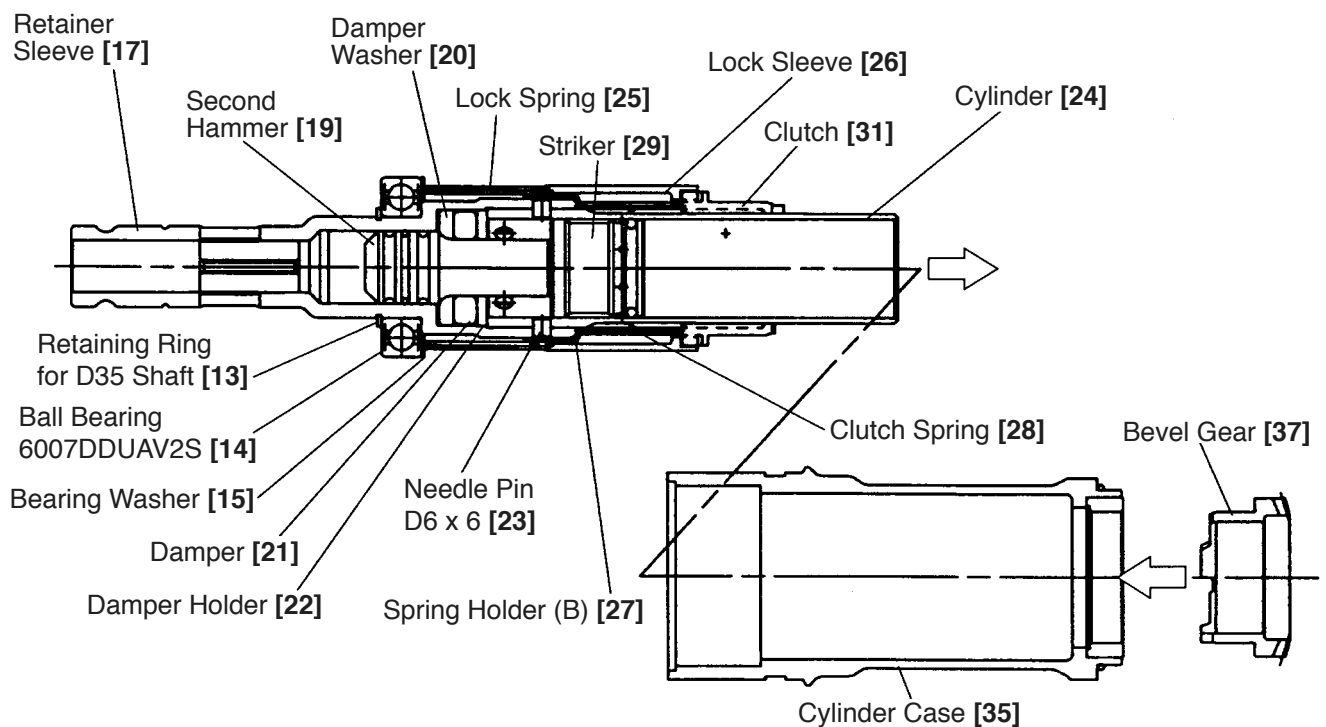

Fig. 21
(3) Reassembly of the cylinder and the retainer sleeve
Press-fit the Retainer Sleeve [17] into the Ball Bearing 6007DDUAV2S [14]. Secure it with the Retaining Ring for D35 Shaft [13]. Mount the Second Hammer [19], Damper Washer [20], Damper [21] and Damper Holder [22] to the Retainer Sleeve [17]. Mount the Damper Washer [20] aligning the rounded surface of the inside diameter with the rounded surface of the Second Hammer [19]. Insert the Striker [29] into the Cylinder [24] then insert the Cylinder [24] into the Retainer Sleeve [17]. Secure the Cylinder [24] and the Retainer Sleeve [17] with the four Needle Pins D6 x 6 [23] and cover it with Spring Holder (B) [27]. Mount the Bearing Washer [15], Lock Spring [25], Lock Sleeve [26], Clutch Spring [28] and Clutch [31] to the Cylinder [24]. Mesh the claw of the Lock Sleeve [26] with the claw of the Clutch [31]. Mount the retainer sleeve assembly into the Cylinder Case [35] aligning the spline of the Lock Sleeve [26] with the spline groove at the inner circumference of the Cylinder Case [35]. Insert the Bevel Gear [37] into the Cylinder Case [35] from the piston side (Fig. 21).